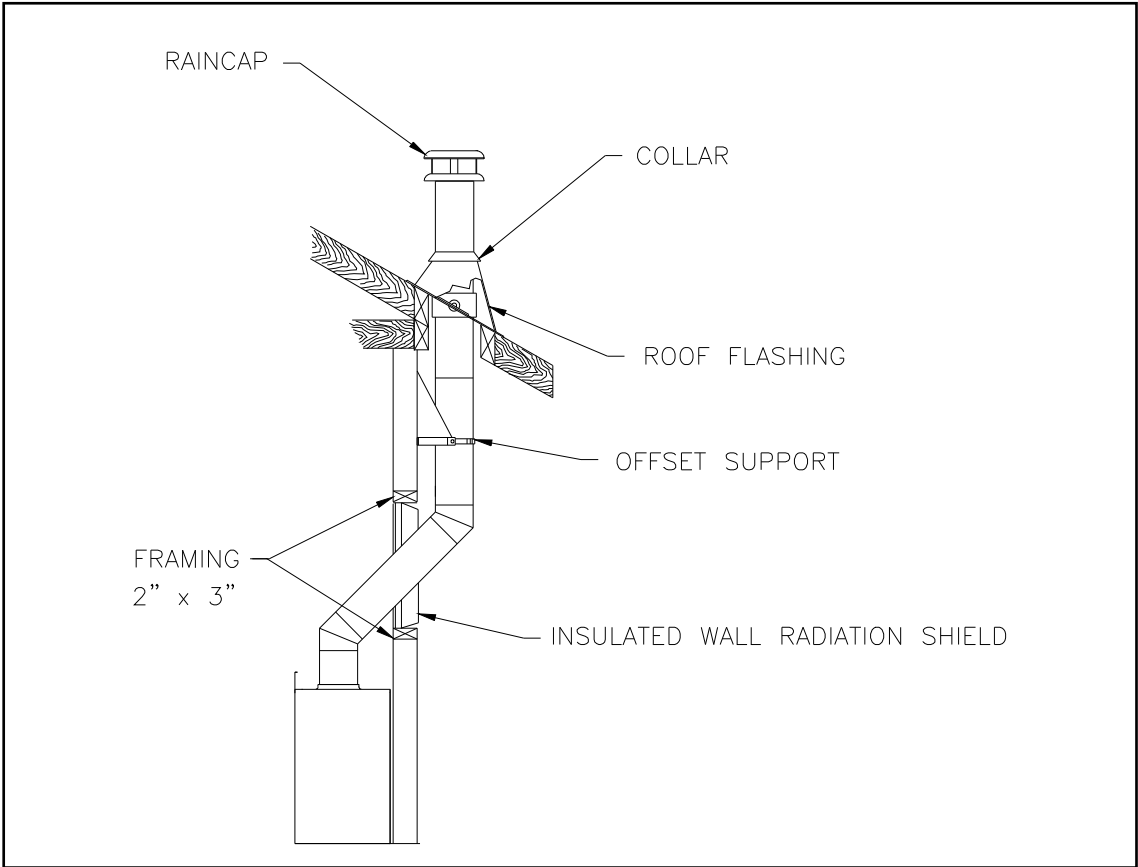

Figure 34
1. Install the first elbow; turn it in the required direction. Fasten it to the chimney with the three (3) ½" (12 mm) metal screws provided with the elbow.
2. Install the necessary chimney lengths to achieve the required offset. Lock the chimney lengths together: it is recommended to use three (3) ½" (12 mm) screws. If the offset length is made of two (2) chimney lengths or more, use an offset or roof support halfway up the offset. If penetrating a wall, install a wall radiation shield (see figures 34 & 35).
3. Use another elbow to turn the chimney vertically. Secure the elbow, using three (3) ½" (12 mm) screws (provided with the elbow).